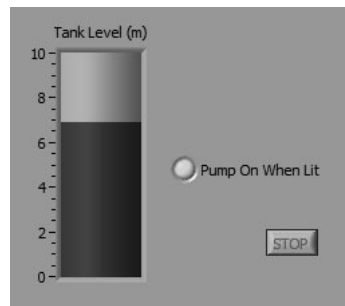

Figure 5.46
The reason for reading one sample at a time is that we can use the results as they are available. The VI shown in Figures 5.46 and 5.47 monitors a tank level (AI) and writes an AO to 0 or 1 V based on whether the AI value is less than or greater than 5 V. The AO would be used to switch on an outlet pump whenever the tank level is over 5 m.